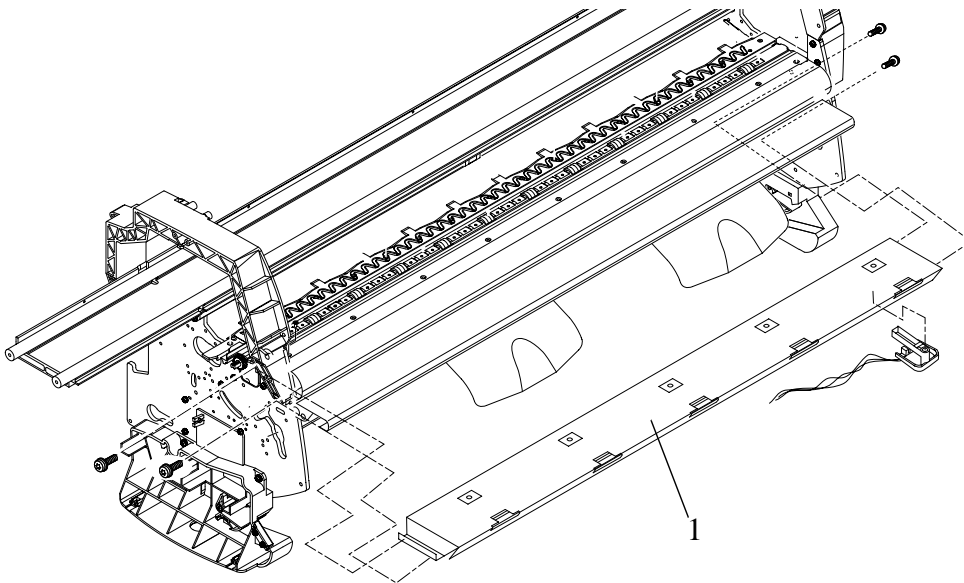

Figure 80: Center Guide
Refer to Figure 78 to Figure 80.
5. Remove the center guide (item 1) (refer to Figure 80):